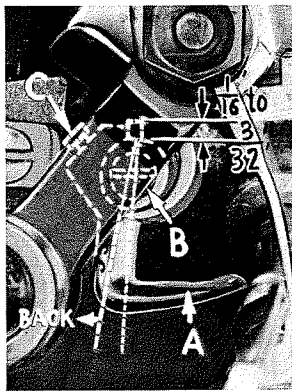

Fig. 8
Insert upper looper (A, Fig. 8) in its holder. Screw (B) holds upper looper in its holder, and permits it to be pushed in or out or turned around its shank. Insert upper looper holder into upper looper shaft, if it is not already in place. Screw (C) on clamp holds the upper looper holder in the shaft. Locate upper looper in its holder so that the shank extends  $1/16$  to  $3/32$  inch beyond holder.
When the upper looper is at the right end of its stroke, upper looper holder should be set to position upper looper shank back of vertical (Fig. 8).